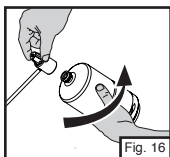

Fig. 16
- Remove plastic cap from top of propane bottle and screw propane bottle into regulator hand tight. (Fig. 16)